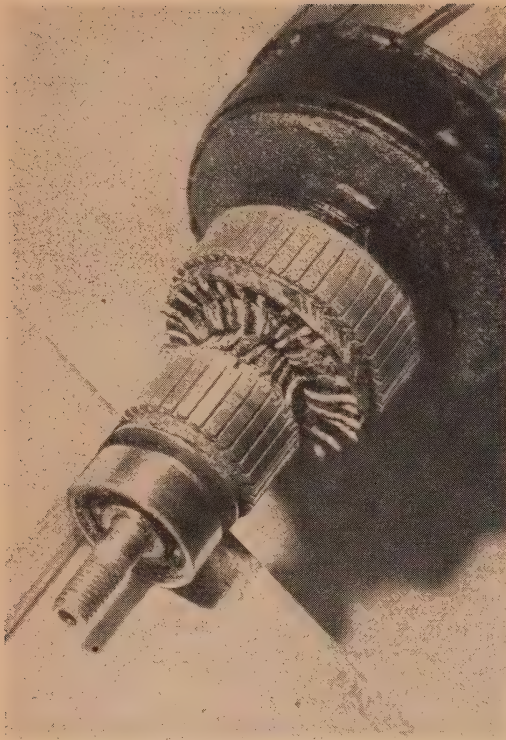

Fig. 20. The PE-101C armature showing the motor #2 end.
Step 8. Motor #2 is converted next. In this conversion it is necessary to move the *bottom* wires and replace the top wires in their original places (Figure 20). This is necessary to keep the two motors "in step" with each other. After the top wires have been released from their respective bars, mark one wire and its bar with a drop of paint. Bend all wires in succession to a vertical position up against the generator commutator. Remove the thin insulation, using the same technique described previously. Pry up the bottom wires and (with motor #2 pointing *toward* you) move each of the *bottom* wires to the *left* (away from the other end of the coil). Tap the wires into their new position with a blade of a small screwdriver. Push down on the wires to make sure that they are down as far as they will go. Do not solder at this time. Replace the insulation with a single layer of cambric cloth, or other good, flexible material. Replace the top wires in their original positions. Solder all connections with a hot iron. Clean the connections and commutator, and reassemble the dynamotor.